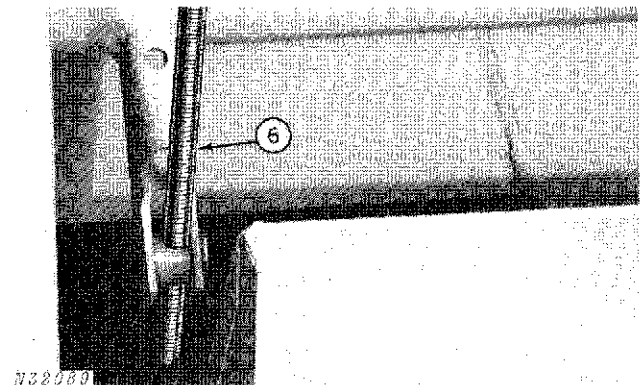

Fig. 21-Removing Stop Rod
6. Install right-hand stop rod (Fig. 21).